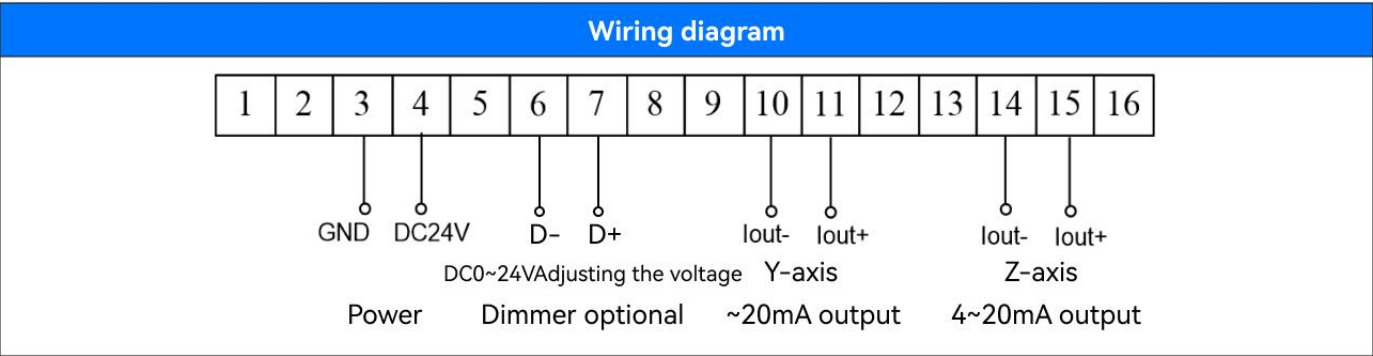

Figure 1.5
The product provides 16 terminals, using DC24 power supply separately, Y axis and Z axis each output 1 4~20mA current signal, with 1 potentiometer dimming interface (if not dimming, can not be connected). The wiring diagram is shown in Figure 1.5.
2. Switch on the power supply, connect the cable as shown in Figure 1.5, push the handle lever, and the resistance reading between the identification number 10 and 11 is the output value of continuous linear change from 4 to 20mA. The red 100% scale corresponds to 4mA, and the green 100% scale corresponds to 20mA. Rotate the handle rod, the resistance reading between the identification number 14 and 15 is the output value of 4 ~ 20mA continuous linear change, the counterclockwise rotation current decreases, the output is 4mA when it is rotated to 180° , the clockwise rotation current increases, the output is 20mA when it is rotated to 180° ; The backlight emits normally. After the inspection is complete, place the handle lever at 0 scale.
4. According to the characteristics of the accessories used in this product, the instantaneous input voltage shall not exceed 20% of the range specified in Figure 1.5 at any time. Avoid excessive instantaneous current and burning accessories.